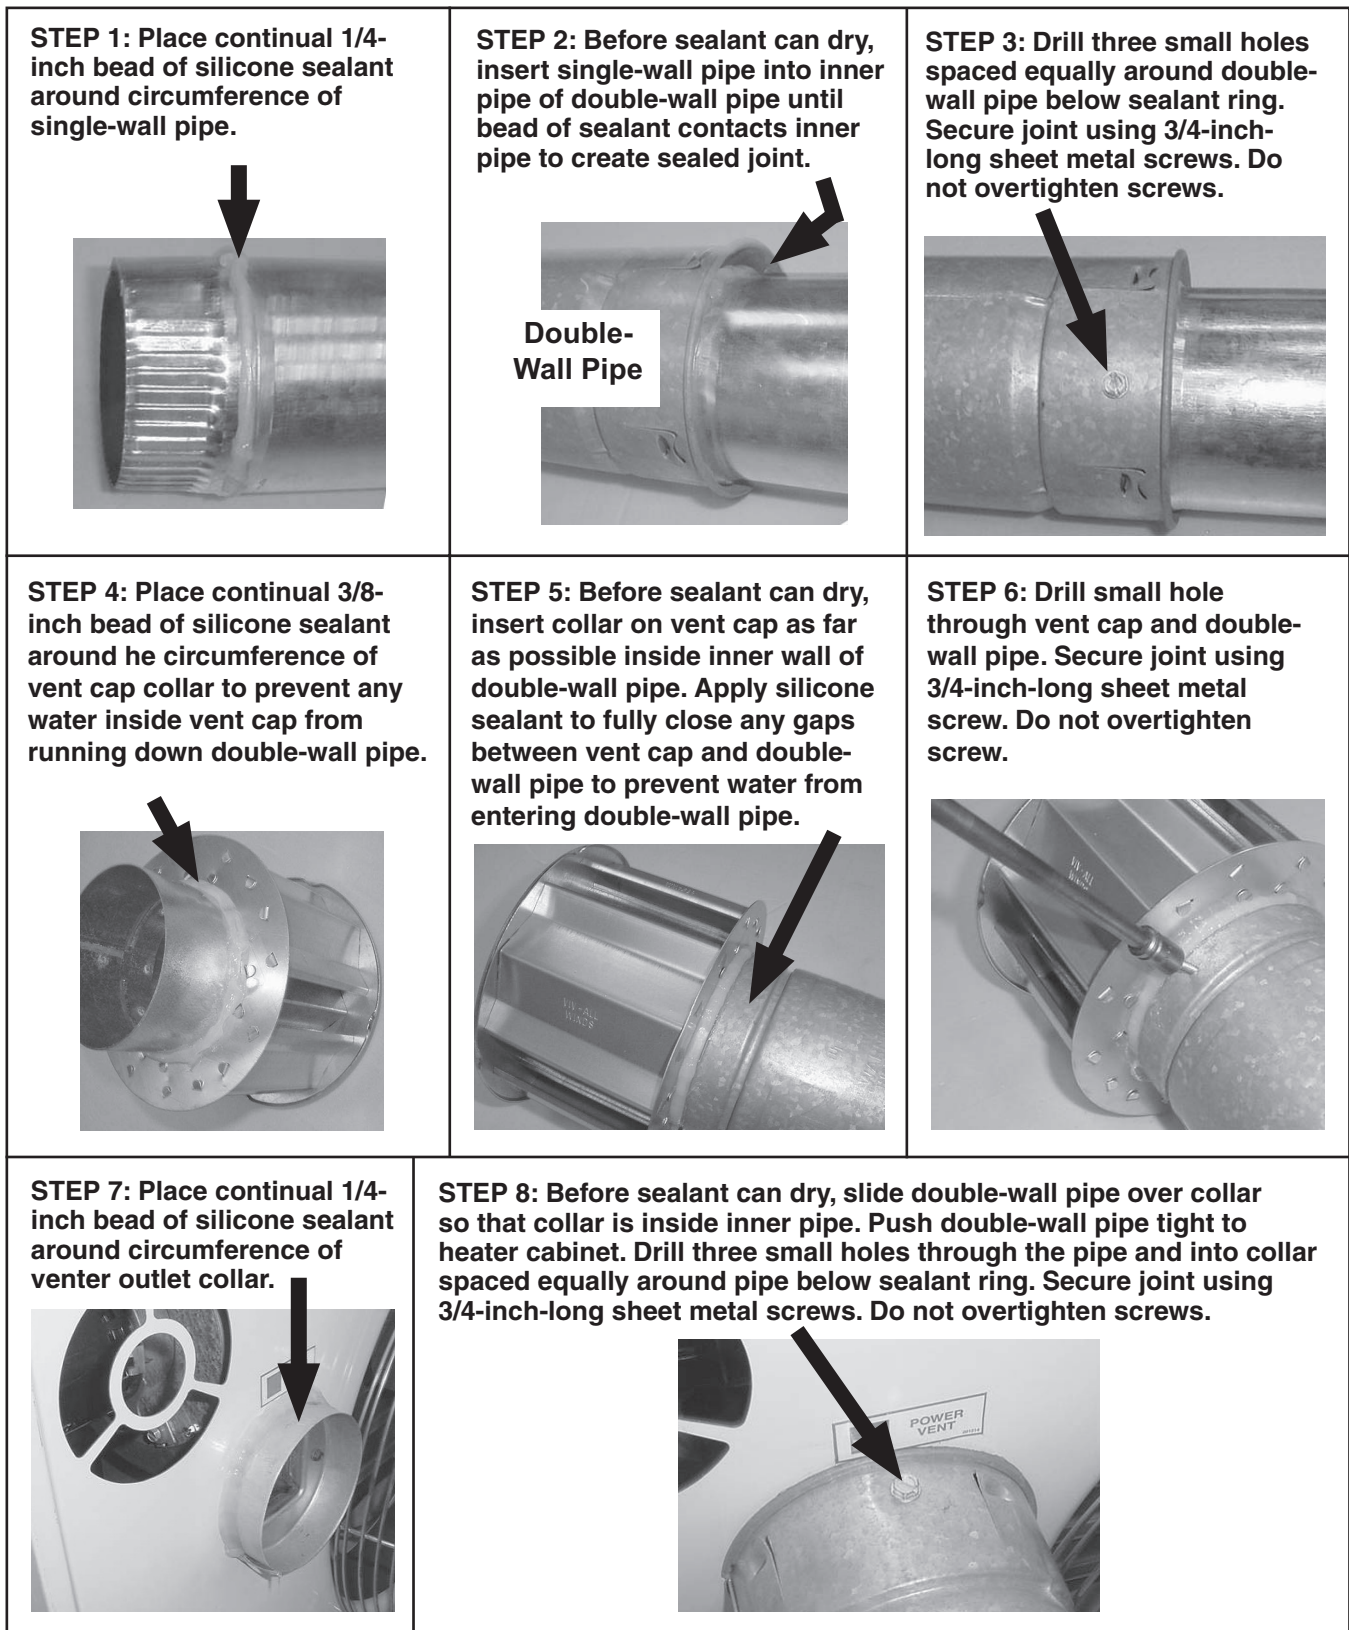

Figure 8. Instructions for Connecting Double-Wall Type B Vent Pipe to Single-Wall Pipe
- **Double-wall Type B vent pipe:** join pipe sections in accordance with the pipe manufacturer's requirement—refer to the illustrated instructions in Figure 8 to connect double-wall pipe to the heater collar, single-wall pipe, and vent cap. Work quickly to assemble components before sealant dries.